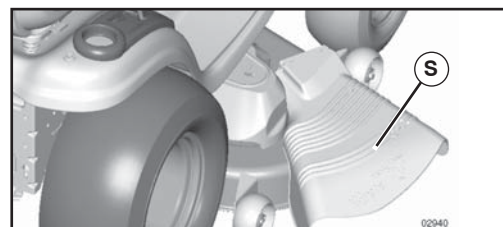

FIG. 10
**CAUTION: Do not operate the mower without either the entire grass catcher, on mowers so equipped, or the deflector shield (S) in place. (See Fig. 10)**